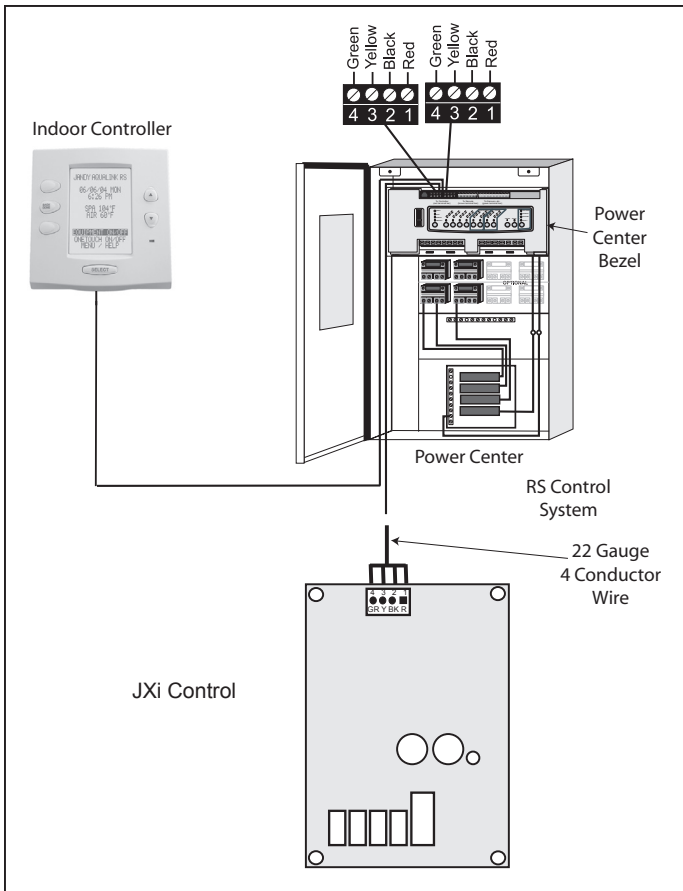

Figure 27. Wiring the JXi to a Zodiac® Remote
3. Use 22 gauge 4-conductor wire to run between the heater and the RS control and match the wire color order. See “Figure 27. Wiring the JXi to a Zodiac® Remote” on page 26.
4. The wires coming from the heater can be “doubled up” on the red terminal bar with the four (4) wires from the indoor controller.